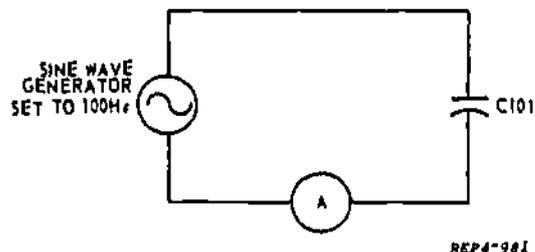

Figure 1-2
1. Connect circuit as shown in figure 1-2.